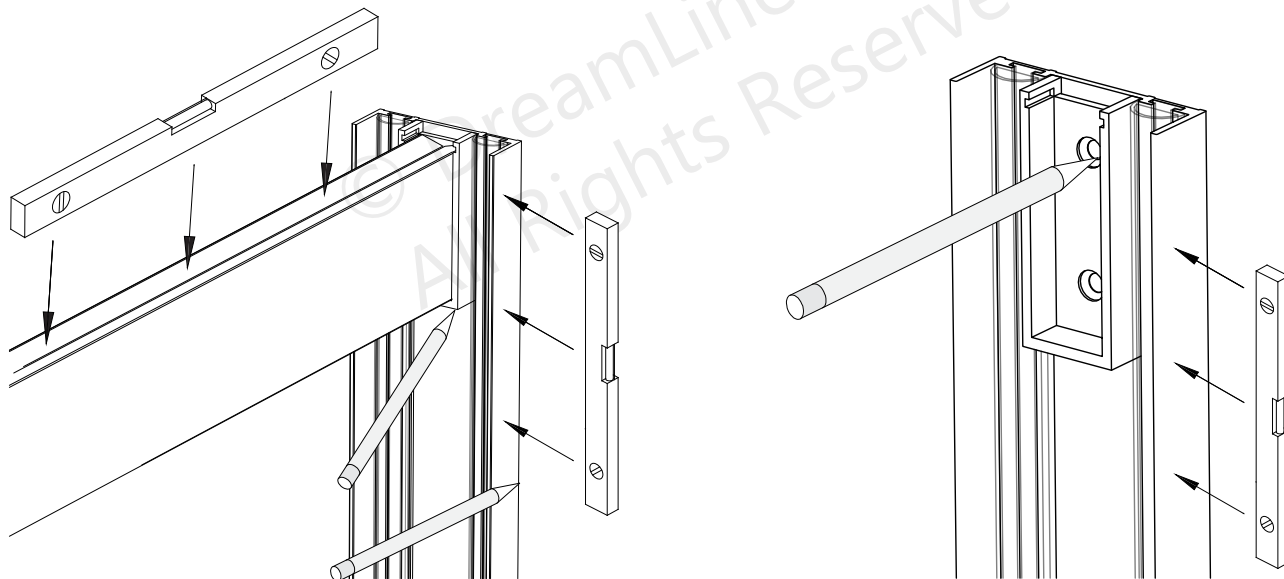

Fig 14
14. Hold the **Upper Guide Rail (#01)** level and the wall profile plumb and mark the position of the bracket on the **Wall Profile (#06)**. (**Fig 14**)